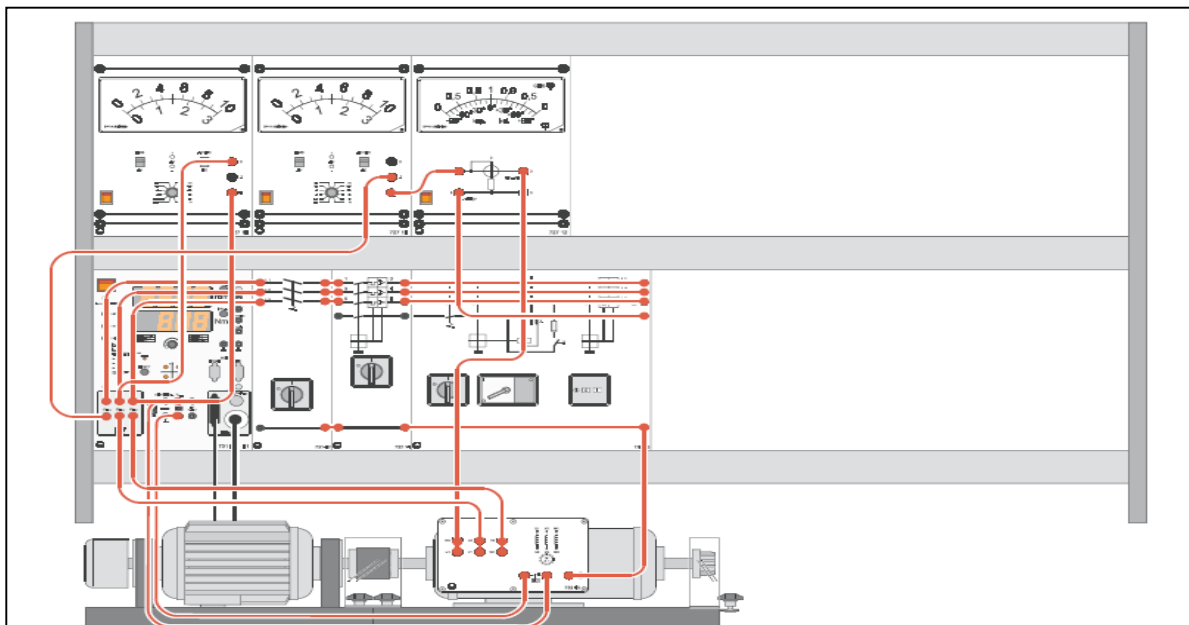

Figure7.1: Arrangement of Units for the Basic Circuits
1. Set up the circuit as shown in Figure 7.1